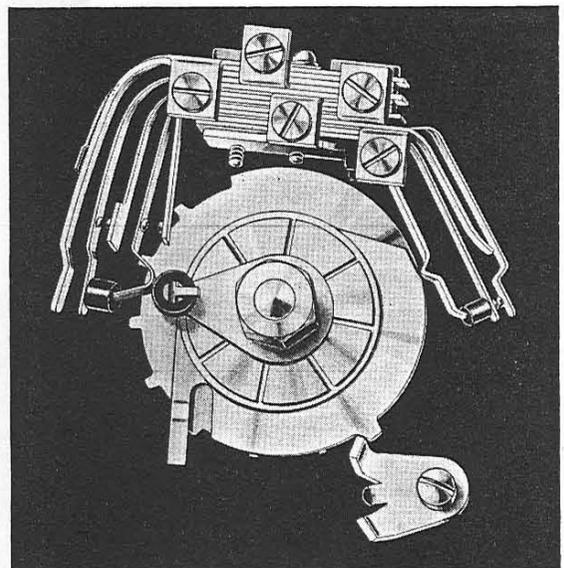

FIG. 4.—SLIPPING-CAM TYPE DIAL—MECHANISM NORMAL
**5. Operation of the slipping-cam mechanism.** The pulse wheel is keyed to the main spindle and the slipping cam is frictionally coupled to the wheel by steel washers under the pressure of the phosphor-bronze spring washer. Movement of the cam is restricted by its two lugs engaging a forked stop mounted on the dial case. The mechanism in its normal position is shown in Fig. 4.